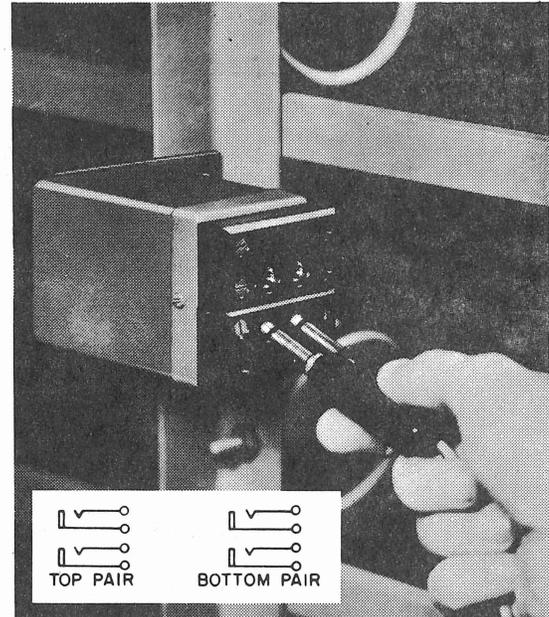

Figure 35. MDF Test Jack Assembly
19.01 The MDF Test Jack Assembly mounts on an MDF vertical (see figure 35) and contains two jacks compatible with the plug on Test Cord 303-1012. This plug is equivalent to WECO plug No. 289B. These jacks may be wired to remotely located test equipment.